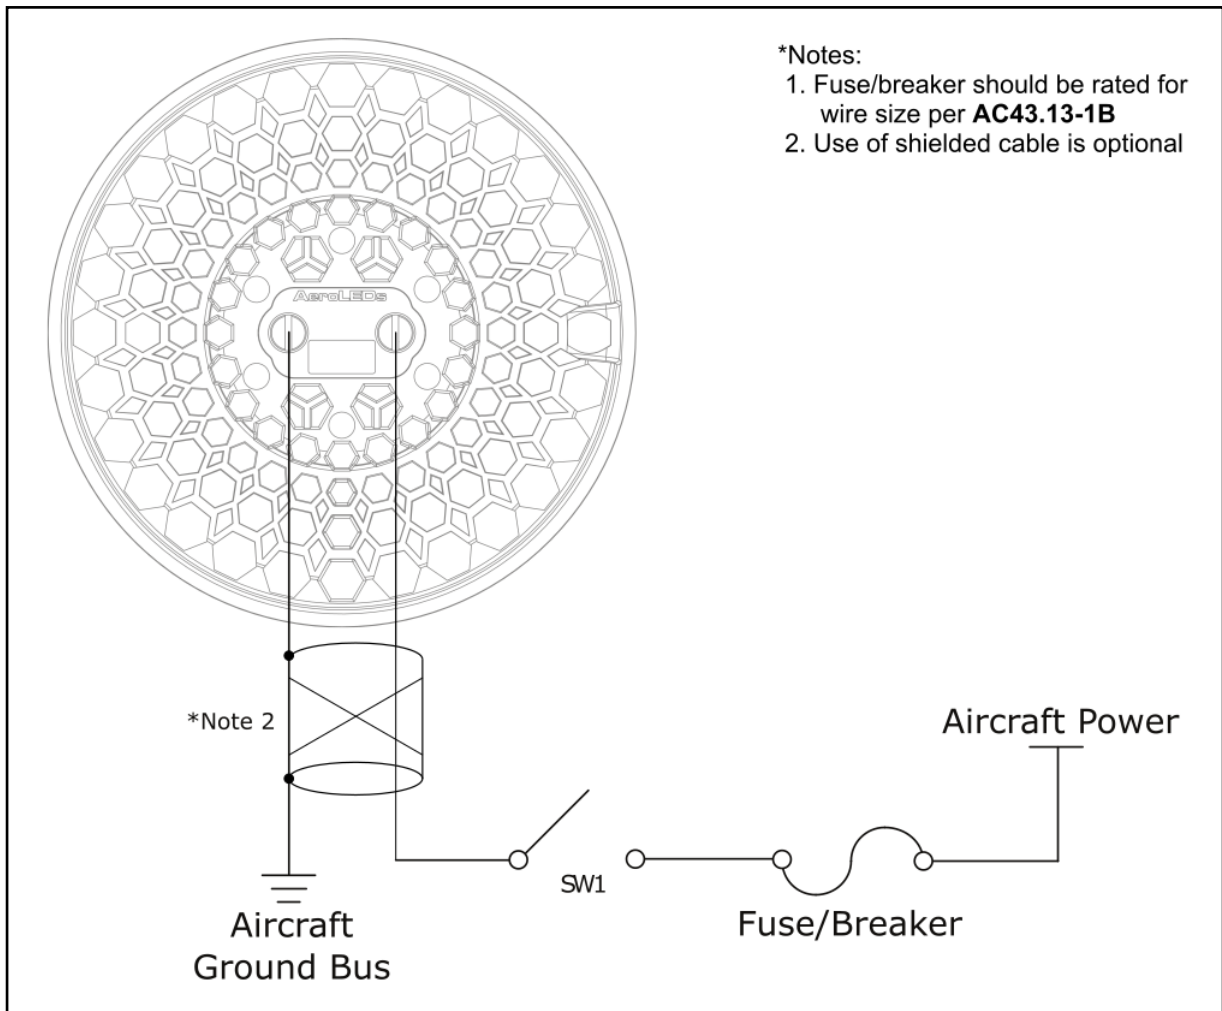

Figure 6-1 SunSpot 64-4559 Wiring Diagram
2. Refer to the wiring diagram in Figure 6-1 for the correct wiring of this light. Note that the connection screw terminals are not polarity sensitive.
8. Install suitable aircraft approved connectors or splices to connect landing light assembly to wires routed from switch in accordance with wiring diagram in Figure 6-1